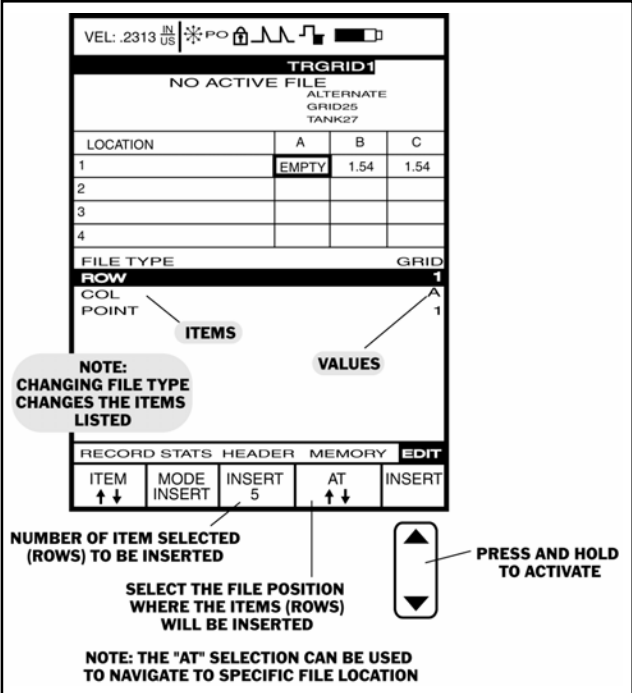

FIGURE 5-10—This is how the EDIT screen will look when the Insert function is selected. The Append screen is very similar.
Step 3: Activate the EDIT Submenu by selecting it with  or  so that it's highlighted. Selections will appear across the bottom of the display screen including ITEM and MODE (Figure 5-10).
Step 4: Press  below the selection titled ITEM. You'll note that several file characteristics are listed including some of the following: *Point, Row, Column, or Location*. This listing varies depending on the selected file type. In Figure 5-10, a Grid file type is selected.